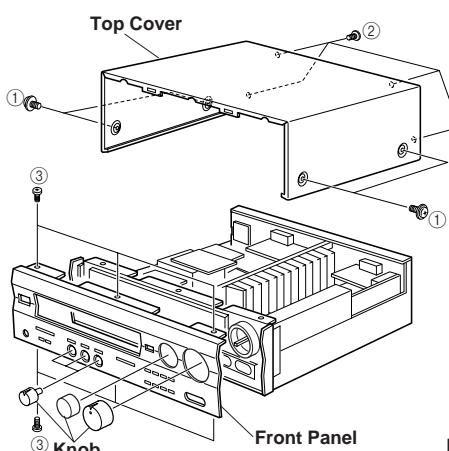

Fig.1
Remove 4 screws (①) and 4 screws (②) in Fig. 1.
b. Remove 6 screws (③) in Fig. 1.